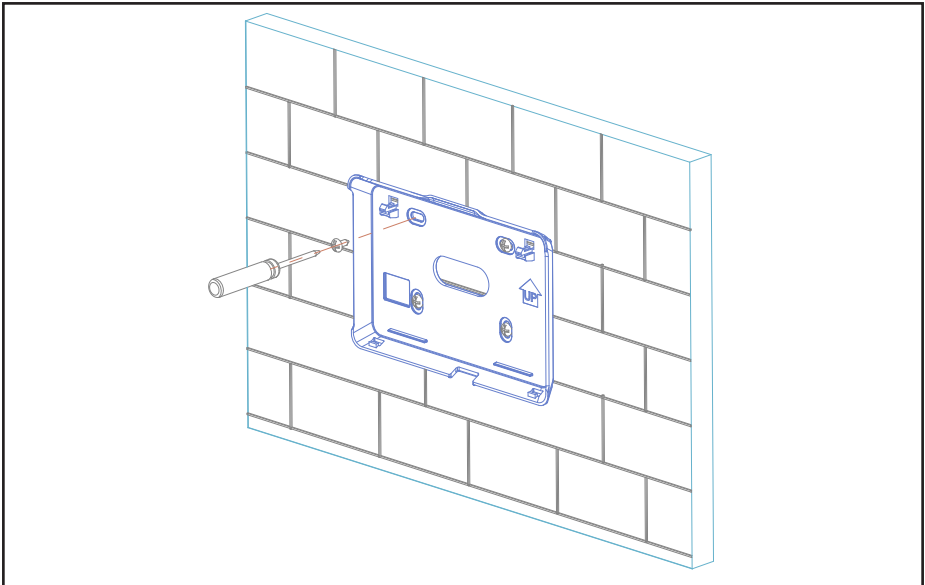

Figure 4. Attach Back Cover to Wall
2. Attach the back cover to the wall using screws. See Figure 4.